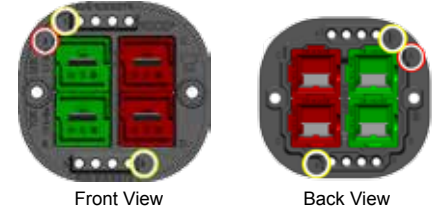

Figure 5
- Positions for the power contacts are labeled A thru D with A being in the upper left corner as you are looking at the front of the holder or upper right corner as you are looking at the back of the holder. (See figure 5)
- Positions for the auxiliary (PowerMod®) contacts are labeled with 1 and 8. 1 is located in the upper left corner and 8 located in the lower right corner as you are looking at the front of the holder. (See figure 5)